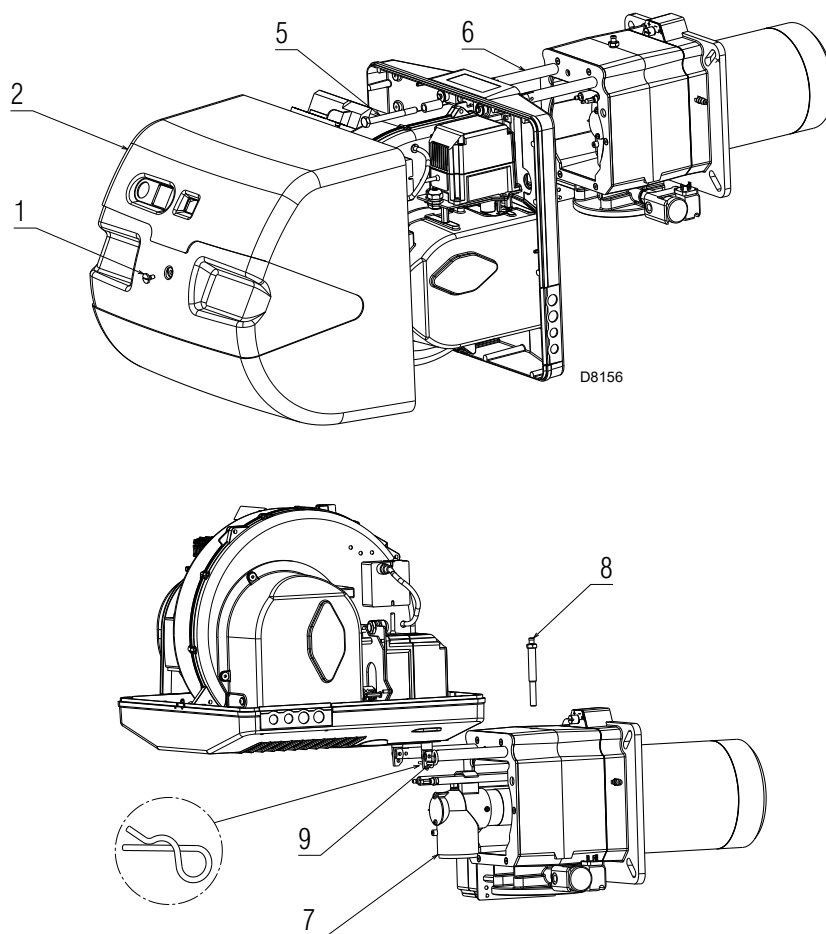

Fig. 41
Make sure that the gas outlet holes for the start-up, on the combustion head distributor, are free of dirt or rust deposits. If in doubt, disassemble the elbow (Fig. 41 at page 52).
- Loosen the screws 1)(Fig. 41) and remove the cover 2).
- Remove the screw 5)(Fig. 41) and cotter pin 9) and split pin 9) and pull back the burner on the guides 3) by about 100 mm.
- Turn it as in Fig. 41 and insert the split pin 9) into the hole of one of the two guides so that the burner remains in that position.
- Remove the split pin 9)(Fig. 41) and push the burner until it is approx. 100 mm from the pipe coupling.
- Replace the screws 5)(Fig. 41) and cotter pin 9) and carefully pull the probe and electrode cables outwards until they are slightly taut.